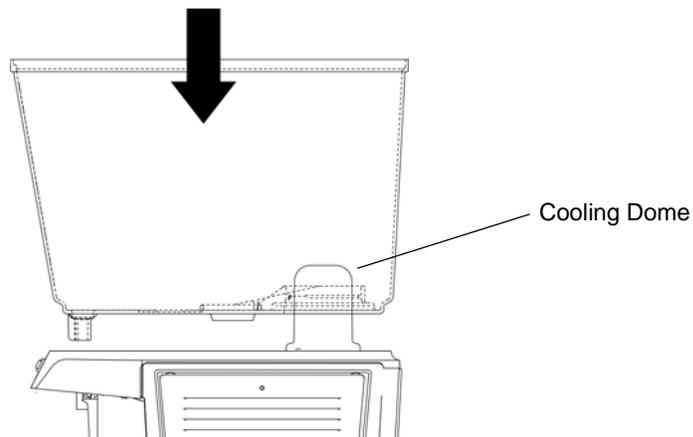

Figure 4
5. Slide bowl over the cooling dome and assemble the bowl to the dispenser. Be careful not to wrinkle the gasket. If gasket is wrinkled, beverage will leak out of bowl. (See Figure 4.)